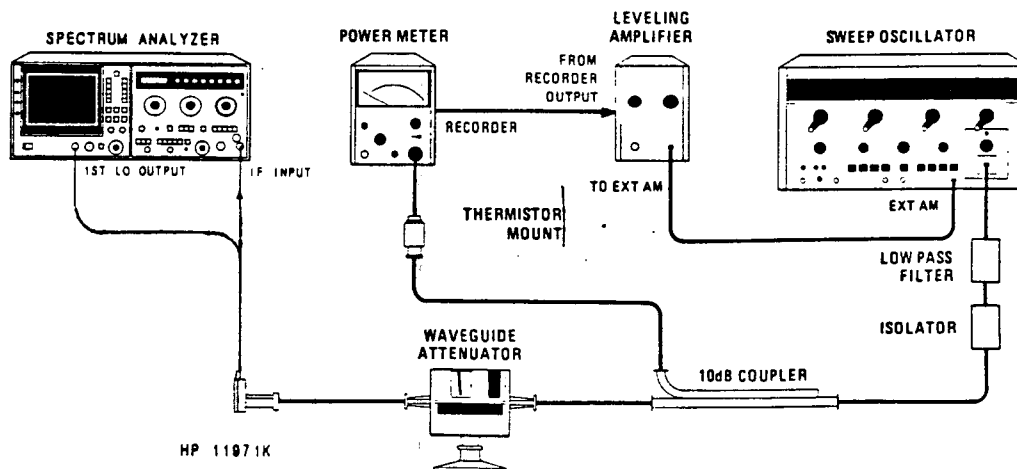

Figure 3-10. Gain Compression Test Setup
1. Connect equipment as shown in Figure 3-10. Set normal (green) settings, except as indicated, and other spectrum analyzer controls as follows: